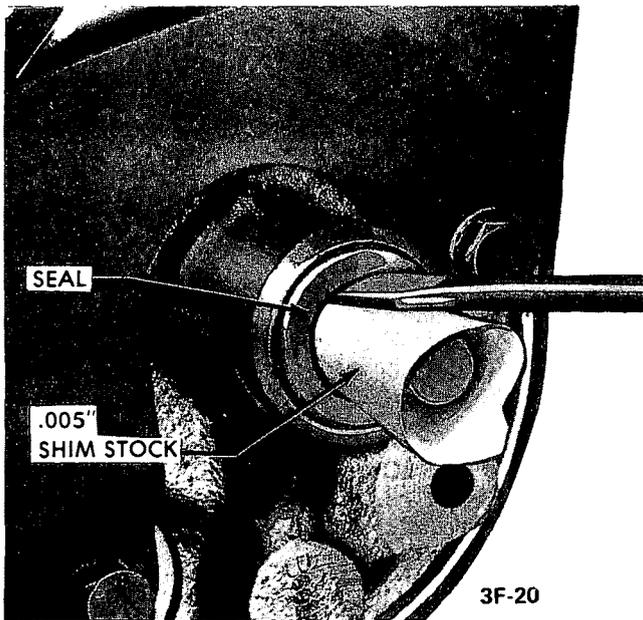

Figure 3F-40 - Removing Oil Pump Shaft Seal
3. Remove seal by cutting metal body of seal with a sharp tool and prying out. See Figure 3F-40. *Extreme care must be used to prevent damage to shaft and pump housing.*